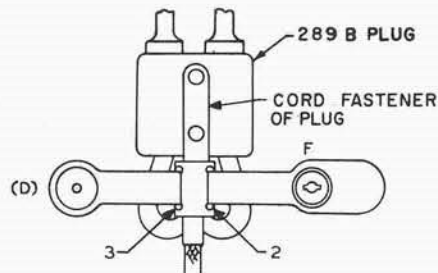

Fig. 4 - Mounting Strap Assembly
6.04 To place a strap assembly around the S hook, proceed as follows: Form the strap assembly by slipping the E end of the assembly through slot 3, as shown in Fig. 4 (B), and the F end through slots 1 and 2, as shown in Fig. 4 (C).
6.05 Loosen the clamping screws of the plug to free the clamp. Remove the old strap assembly and slip the new assembly over the clamp and S hook so that it is positioned as shown in Fig. 4 (D). Mount the clamp on the plug and tighten the clamping screws.